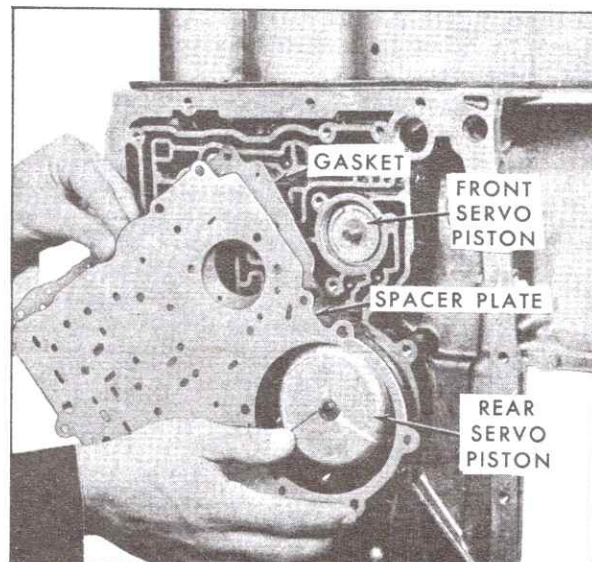

Fig. 7-144 Removing Control Valve Spacer and Gasket
9. Remove control valve spacer and spacer-to-transmission case gasket, Fig. 7-144.
1. Lift front servo piston, washer, pin, retainer and spring out of transmission case, Fig. 7-144.
2. Remove rear servo assembly from transmission case, Fig. 7-144.